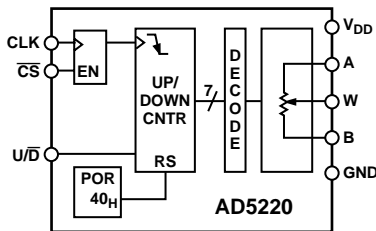

Figure 35. Block Diagram
The AD5220 contains a three-wire serial input interface. The three inputs are clock (CLK), \overline{CS} and UP/DOWN (U/\overline{D}). The negative-edge sensitive CLK input requires clean transitions to avoid clocking multiple pulses into the internal UP/DOWN counter register, see Figure 35. Standard logic families work well. If mechanical switches are used for product evaluation they should be debounced by a flip-flop or other suitable means. When \overline{CS} is taken active low the clock begins to increment or decrement the internal UP/DOWN counter dependent upon the state of the U/\overline{D} control pin. The UP/DOWN counter value (D) starts at 40_H at system power ON. Each new CLK pulse will increment the value of the internal counter by one LSB until the full scale value of $3F_H$ is reached as long as the U/\overline{D} pin is logic high. If the U/\overline{D} pin is taken to logic low the counter will count down stopping at code 00_H (zero-scale). Additional clock pulses on the CLK pin are ignored when the wiper is at either the 00_H position or the $3F_H$ position.